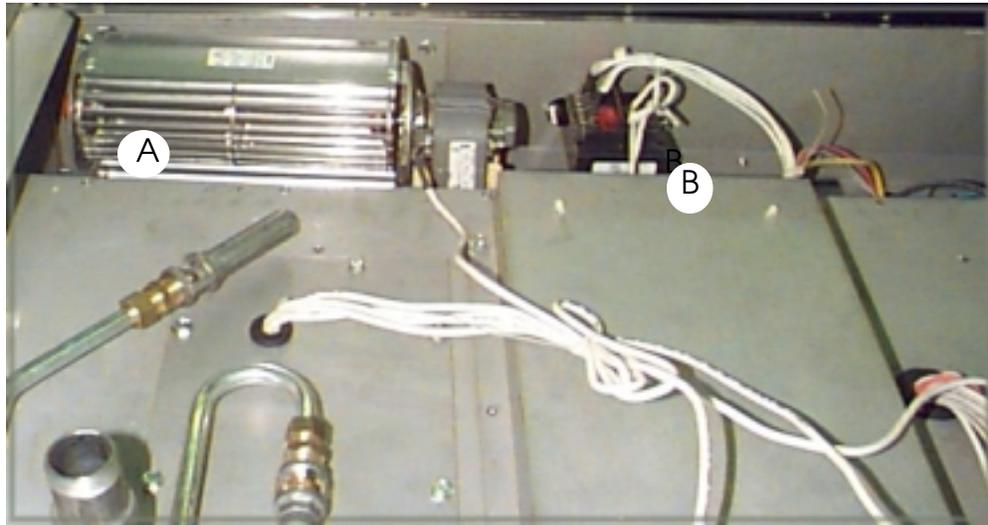

Figure 16-1
Figure 16-1 shows the cooling fan (A) (Part number 82347) and the transformer (B) which are located beneath the access cover